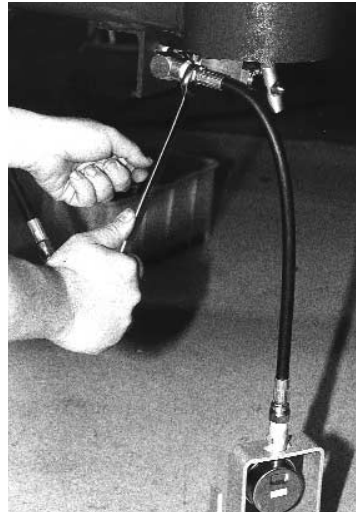

Figure 4
4. Attach pressure gauge hose to 90 degree elbow as shown in Figure 4 and tighten securely.